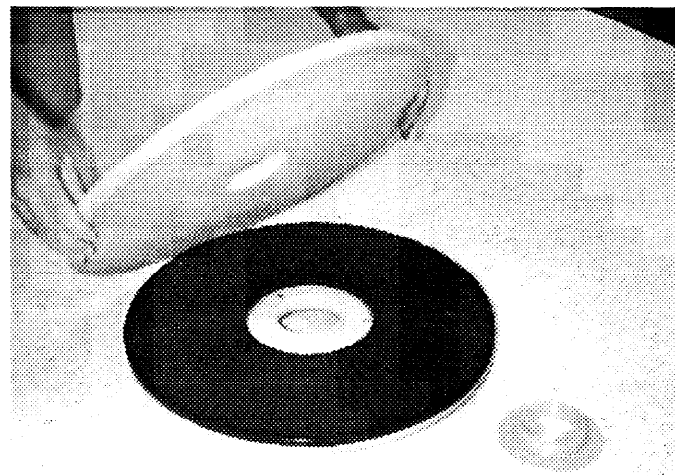

FIG. 5
5. (For Pad Installation) Attach pad to pad driver. Attach pad before installing pad driver to motor hub: Remove plastic centerlock from pad driver. Position pad centered on pad driver and replace centerlock securely. (Figure 5)